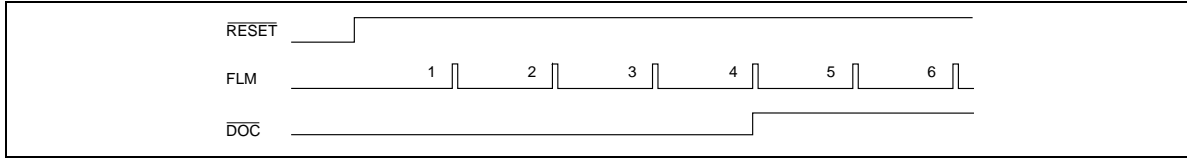

Figure 8 Automatic Display-Off Control Function
3. Auto Display-Off Control: This function prevents incorrect display after reset release. The display is turned off four frames following after reset release. In addition, the display off control signal shown in Figure 8 is output by pin $\overline{\text{DOC}}$. This pin is connected to pin $\overline{\text{DISPOFF}}$ of the HD66520.